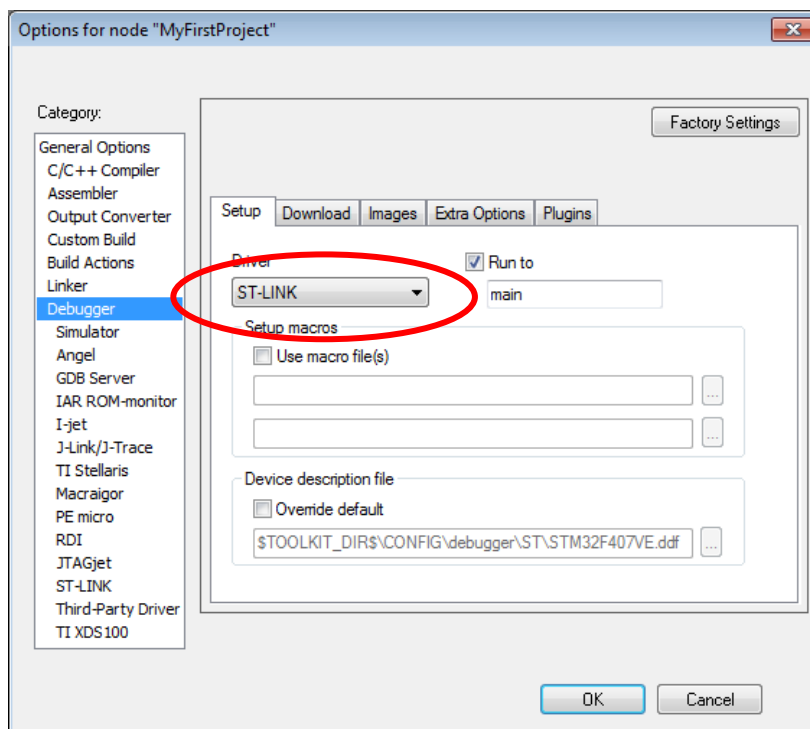

Figure 10: We use ST-LINK / 2 for downloading and debugging
- We will use the ST-LINK / 2 to download the machine code and debug it, either the one embedded onto the DISCOVERY board or the stand-alone version, so we need to tell the debugger out hardware, see Fig. 10.
- When the first is desired, the step described in Fig. 10 must be different: the “Simulator” must be selected instead of “STR-LINK”. The machine code will not be sent to the microcontroller, but kept inside the personal computer instead. The personal computer will read the machine code step by step and simulate the behavior of real hardware. This mode is very usable for testing algorithms, but cannot simulate the real hardware (interrupt requests, timers/counters, ADCs, DACs, ...).